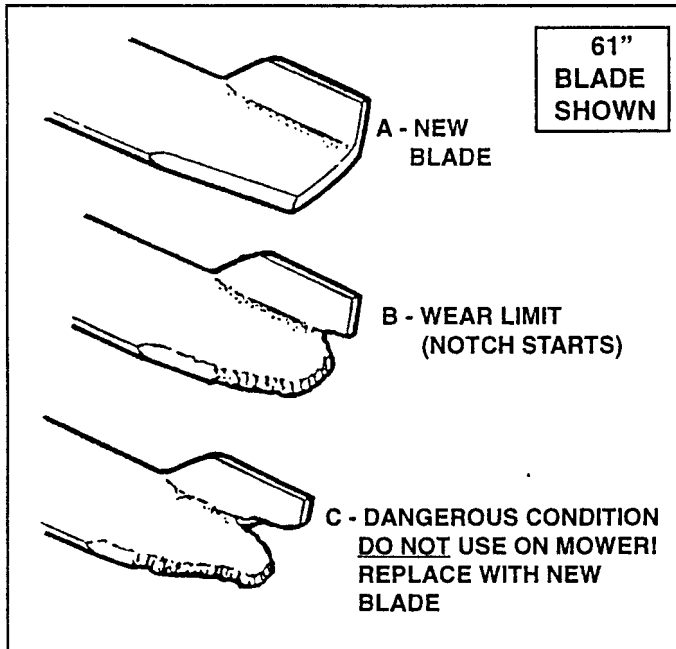

FIGURE 9.1
A. When performing service on a mower unit, be sure to check the Cutting Blades for damage or signs of excessive wear. See Figure 9.1 for blade wear limits.
Never allow a customer to take a mower out of your repair shop with a Cutting Blade worn to the extent shown in illustration "C" of Figure 9.1, without warning that customer of the danger that a tip could fly off and cause either personal injury or property damage.
- C. Clean and inspect each Blade for excessive wear and damage. Refer to Figure 9.1.